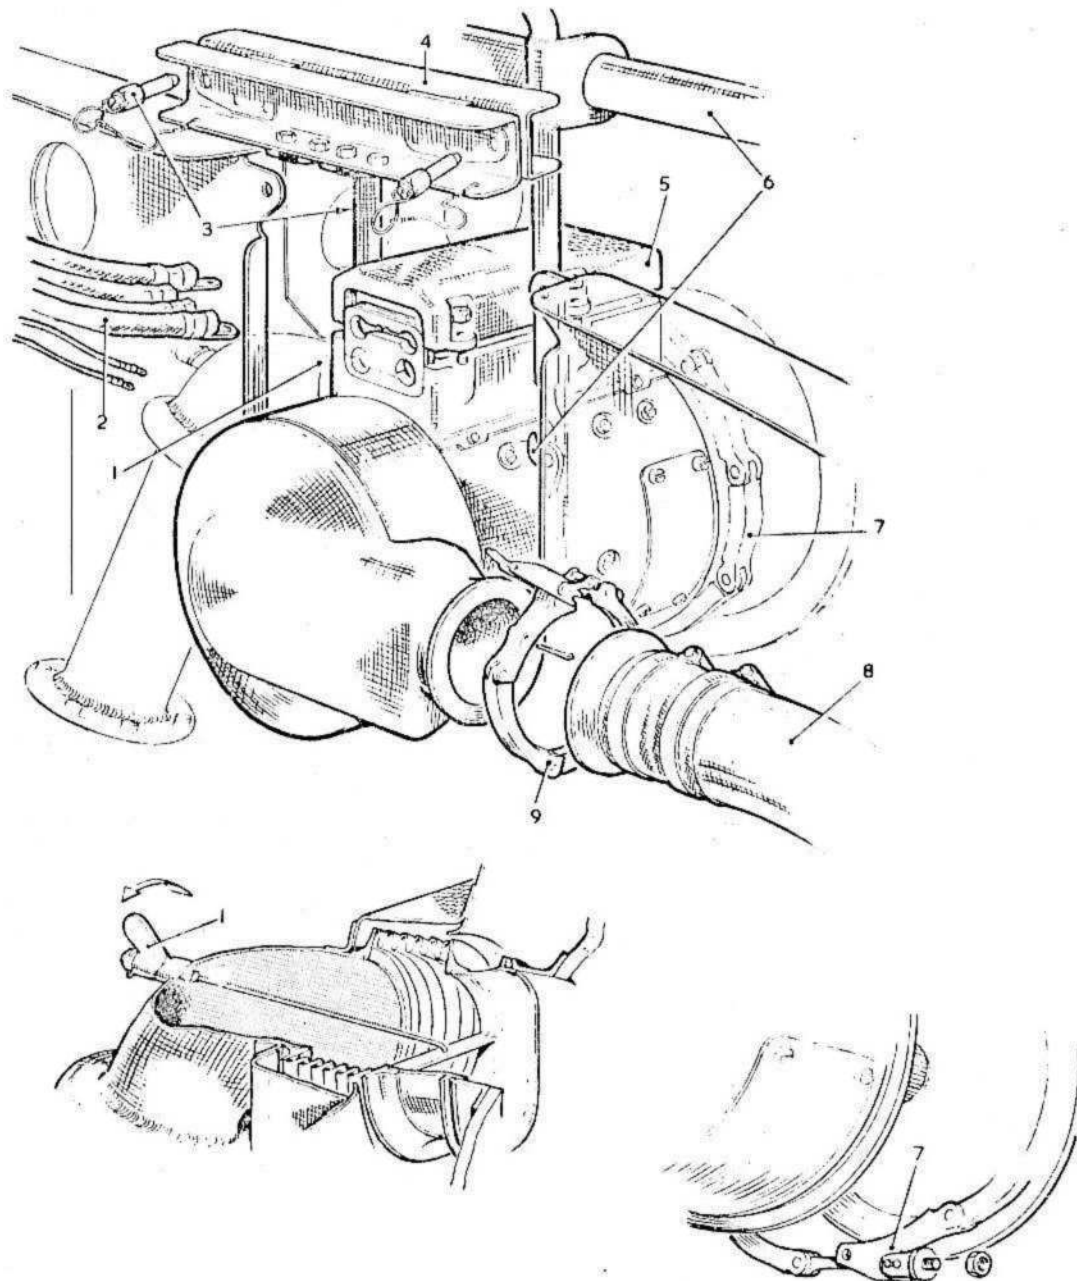

Fig. 12. Generator removal
- (3) Disconnect the electrical lead (4) to the fuel heater pipe.
- (4) Disconnect the fuel heater pipe (3) between the heater and the inboard engine rib.
- (5) Disconnect and blank off the hydraulic pipes (2).
- (6) Release the drain connection (5).
- (7) Support the pumps, remove the attachment nuts (6) and spring washers, and remove the pumps.
**Generator (fig. 12)**